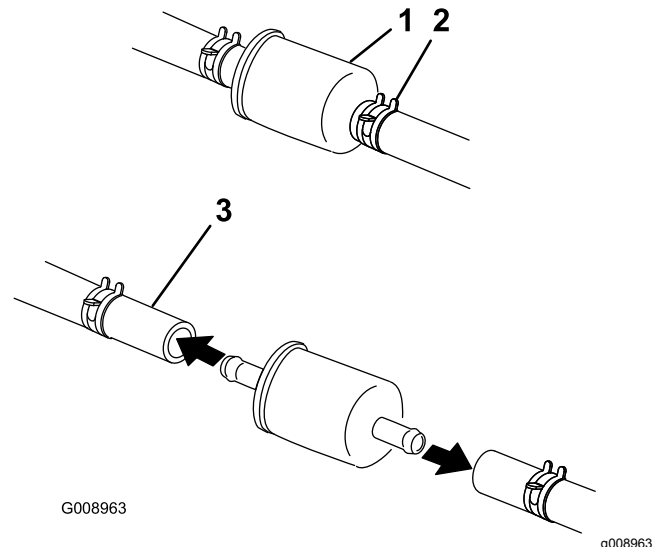

Figure 59
5. Squeeze the ends of the hose clamps together and slide them away from the filter (Figure 59).
7. Install a new filter and move the hose clamps close to the filter (Figure 59).